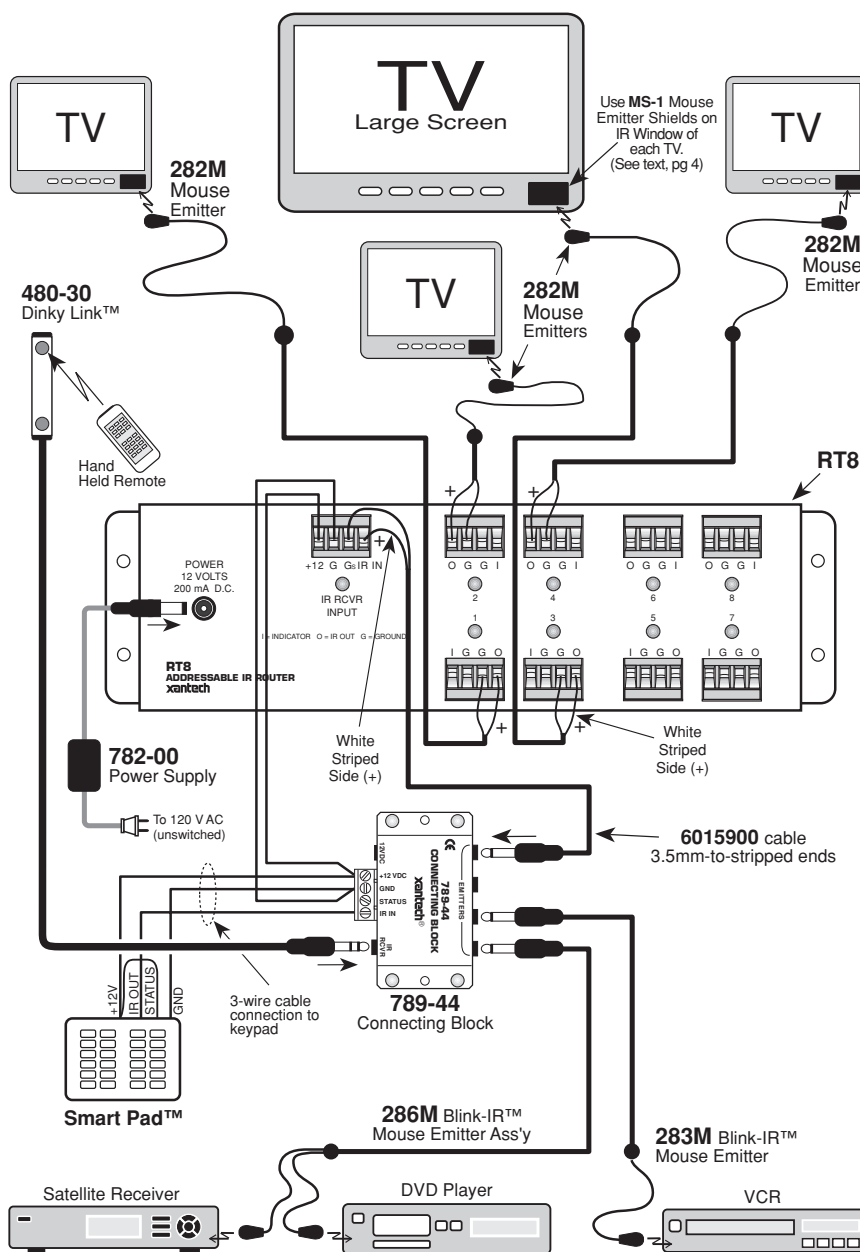

Fig. 4 Using the RT8 for IR Control of 4 TV Monitors
Fig. 4 illustrates a typical application where an RT8 is used to route IR control signals to four TV monitors in a media wall.
3. MS1 Mouse Emitter Shield Covers (optionally available for use with Mouse Emitters) must be used on each TV IR sensor window as shown in **Fig. 4**. This is necessary to prevent the TVs from responding directly to the IR signals from the handheld remote control. See the 282M and MS1 instructions for information on applying the Shield Covers.
Figs. 4 and 6 show typical applications of the RT8. Many others are possible using similar techniques.